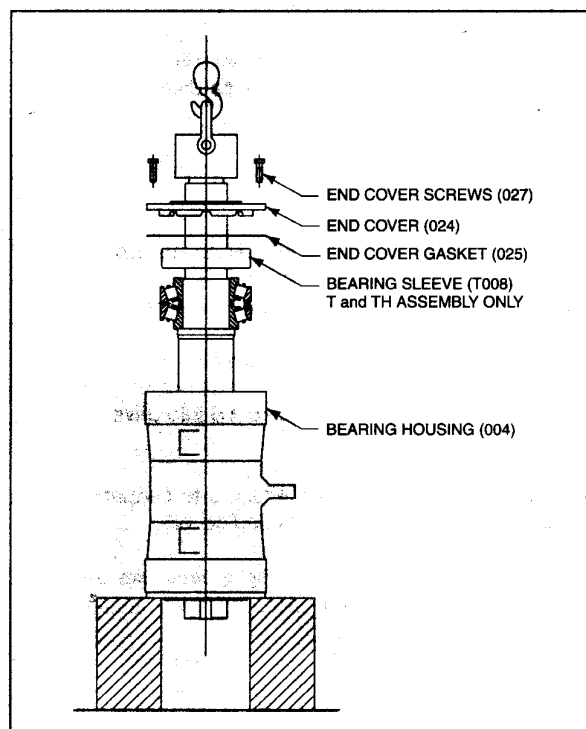

Figure 3-3 • Fitting Shaft to Bearing Housing
FITTING SHAFT TO BEARING HOUSING (Figure 3-3)
1. Place bearing housing on two wooden blocks with fitted end cover down as shown in Figure 3-3. Clean and lightly grease bearing bore.
2. Screw SHAFT LIFTING NUT (311) onto the impeller end of shaft, and by means of a hoist, lift shaft carefully into housing. Tap bearing until it rests against the bearing housing shoulder.
4. Lightly grease inside surfaces of END COVER (024).
5. Place END COVER with END COVER GASKET (025) into the housing. Insert END COVER SCREWS (027), and tighten evenly.